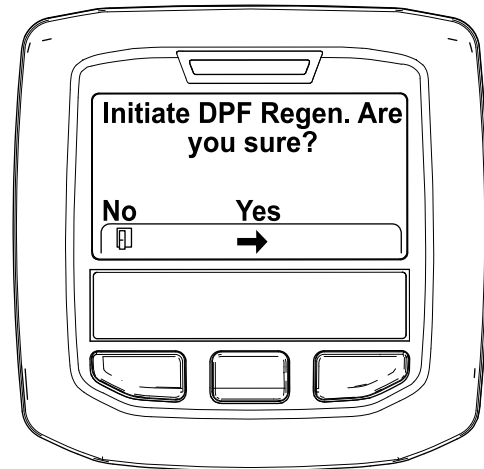

Figure 47
4. When the "Initiate DPF Regen. Are you sure?" message displays, press the center button (Figure 47).